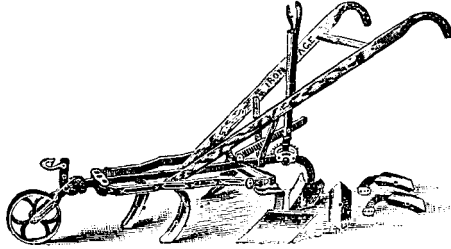

FIG. 5. Iron Age Horse Hoe.
*The Iron Age Horse Hoe* (see Fig. 5), made by the Bateman Manufacturing Co., wherever tried has given good satisfaction. It is simple in construction and strong, and in every way a good imple-